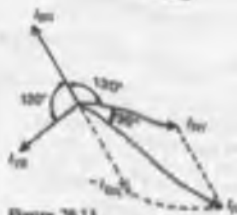

Figure 20.11
- Using Kirchhoff's current law in Fig. 20.10, $I_R = I_{RY} - I_{BR} = I_{RY} + (-I_{BR})$ from the phasor diagram shown in Fig. 20.11, by trigonometry or by measurement, $I_R = \sqrt{3} I_{RY}$, i.e. for a delta connection: